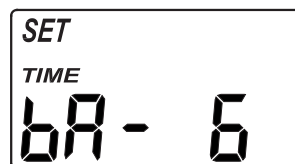

FIG. 39
2. Press the SELECT button twice, so that "SET TIME bA" appears in the display (See Figure 39).